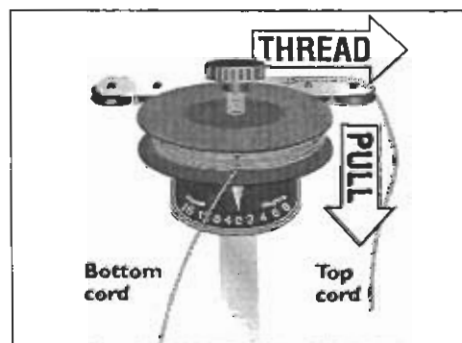

Figure 27
4. Thread the end of the top cord through the right side pulleys from inside to outside (Figure 27). Pull the top cord down to wrap the other section of cord around the drum.